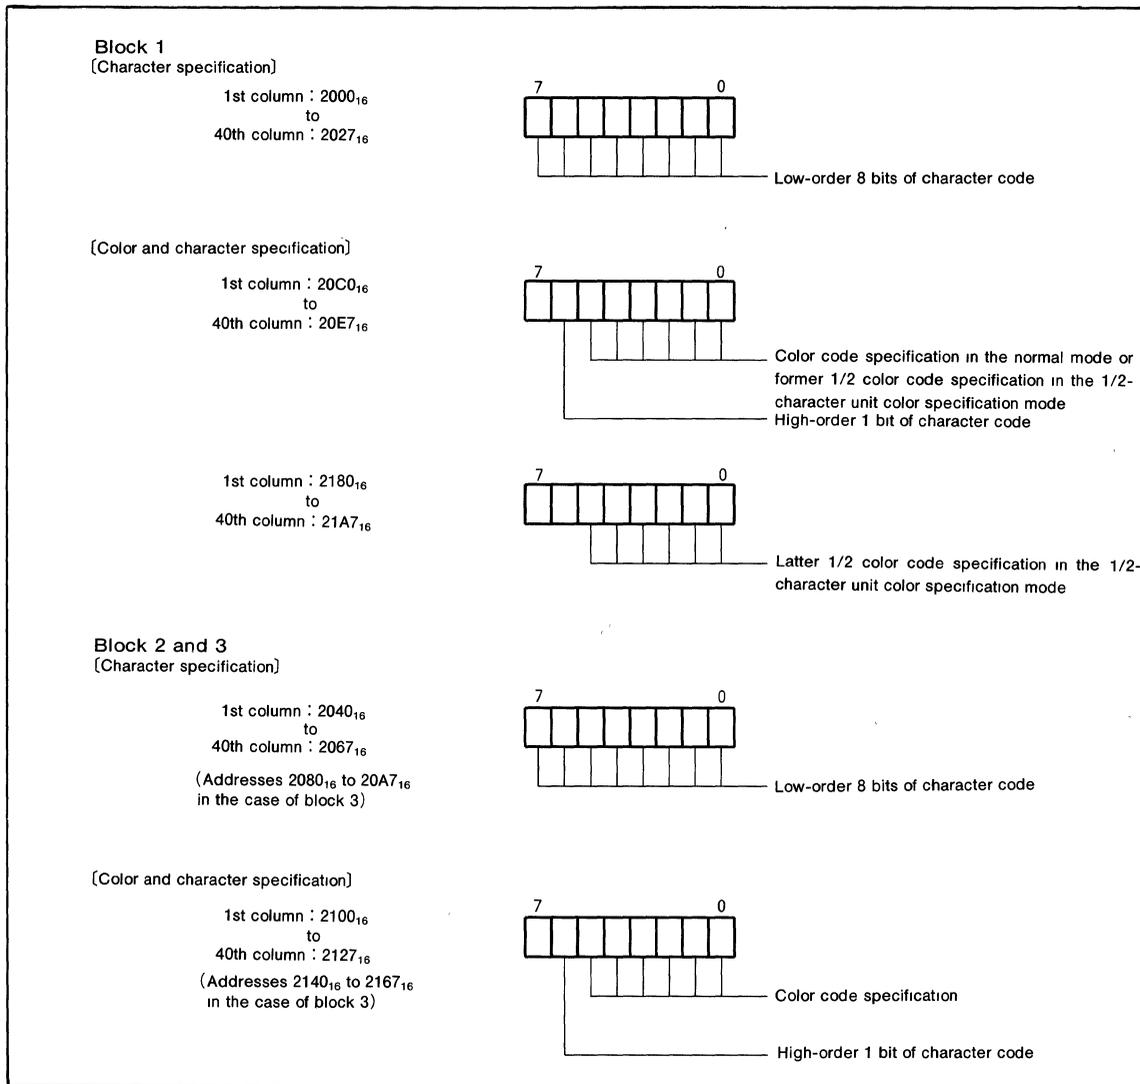

Fig. 31 Structure of CRT display RAM
② CRT display RAM (addresses 2000₁₆ to 27FF₁₆)
The CRT display RAM is allocated at addresses 2000₁₆ to 27FF₁₆, and is divided into a display character code specification part and a display color code specification part for each block. The contents of this area are shown in Table 4. For example, to display one character at the first character position (the left edge) of block 1, write the character code to bit 6 of address 20C0₁₆ and to address 2000₁₆, and write the color code to the lowermost 6 bits (bits 0 to 5) of address 20C0₁₆. For details of the color codes, see section (4) Color codes. The structure of the CRT display RAM is shown in Fig. 31.